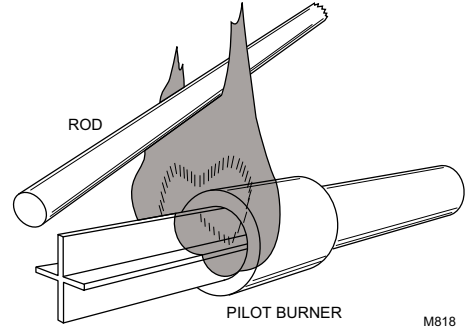

Fig. 5. Positions of flame rod with horizontal type pilot burner.
7. A horizontal or inclined flame rod should enter the pilot flame from the side. If the rod is located above and parallel to a horizontal or semi-horizontal pilot burner, it may falsely indicate that a weak or candler pilot flame is adequate for igniting the main burner. See Fig. 5.